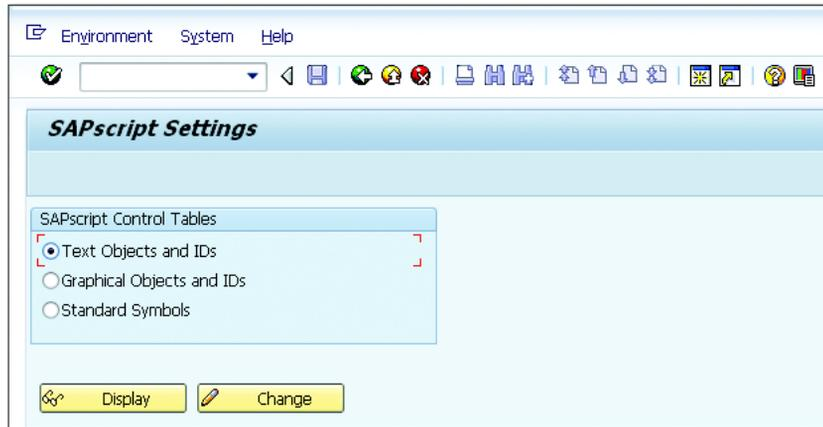

Figure 4.54 Text Objects and Text Types
1. Define the text objects and text types by following the menu path, SPRO • CUSTOMER RELATIONSHIP MANAGEMENT • BASIC FUNCTIONS • TEXT MANAGEMENT • DEFINE TEXT OBJECTS AND TEXT TYPES. Define the text ID for the text object, which can be CRM_ORDERH or CRM_ORDERI. In the SAPSCRIPT SETTINGS screen shown in Figure 4.54, select the TEXT OBJECTS AND IDS radio button.